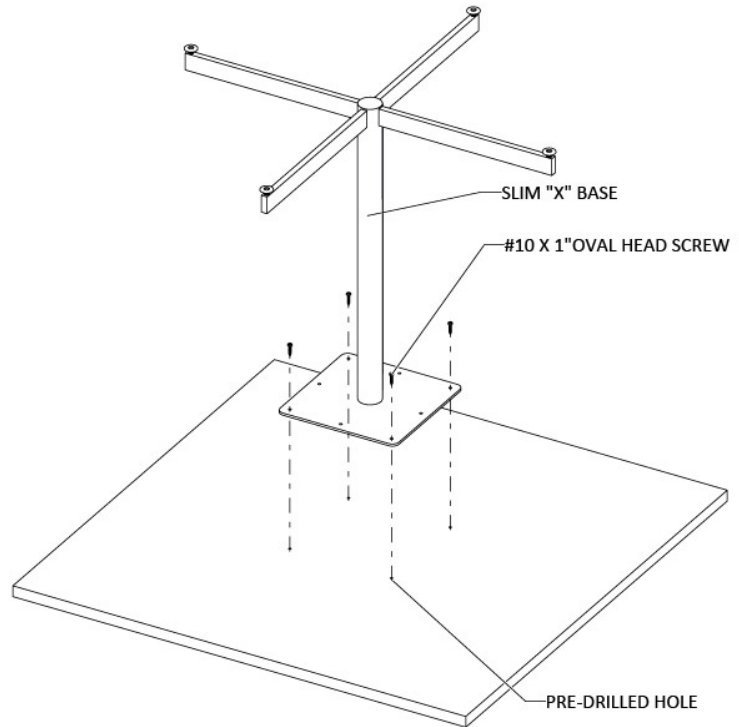

Figure 2
2. Position the tubular "X" base using the pre-drilled positioning holes and attach it to square table top using #10 X 1" Oval Head Screws, (Figure 2).